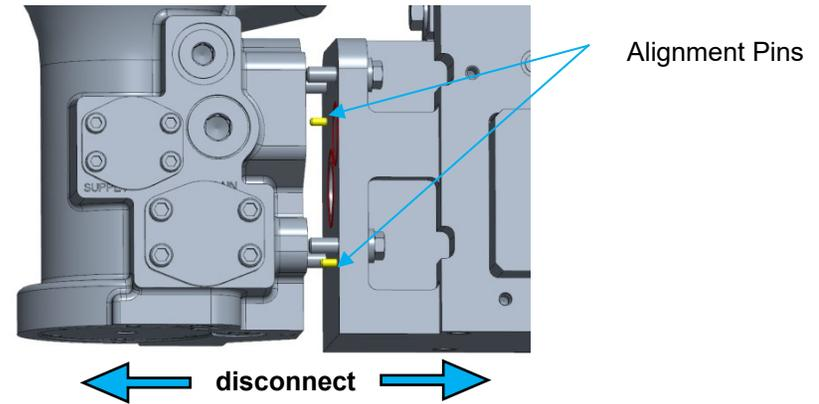

Figure 2-31. VariStroke Disconnection
56. After unscrewing all four bolts, use lifting equipment to gently support the disjointed servo by pushing/pulling it in the directions shown in Figure 2-31.